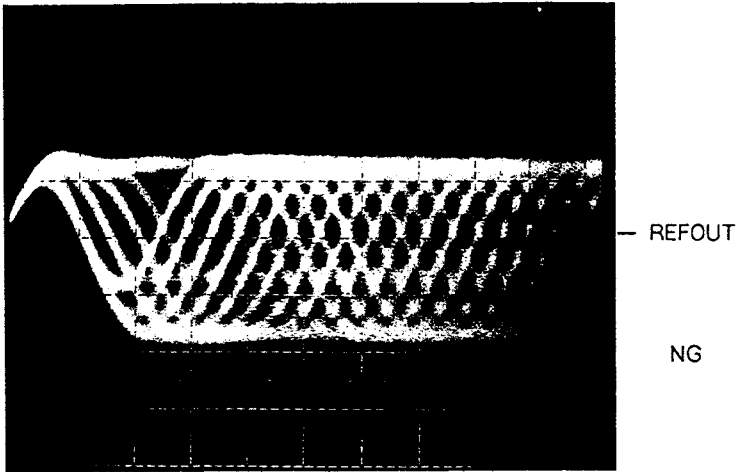

Fig. 12
2. Adjust the tangential adjustment screw so that the RF wave-form will have a level maximized and an eye pattern clearly viewed. Turn the adjustment screw both clockwise and counterclockwise to points where the eye pattern deteriorates, and take the midway point as the adjustment point. As a general guide, look for an overall clear wave-form, and one of the diamond shapes in the eye pattern. The diamond shapes should appear in fine lines at the point of optimum adjustment. Take care not to knock the pick-up with the screwdriver at this stage. (This kind of accident can result in loss of focus.) (See Fig.12,13)